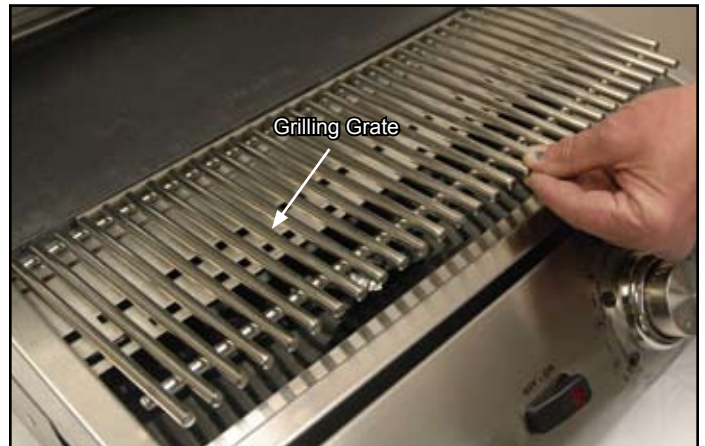

Figure 7
4. Slide the grilling grate into the grill compartment. The back edge will rest on the fixed cross member and the front edge on the front ledge in the compartment. (See Figure 7).